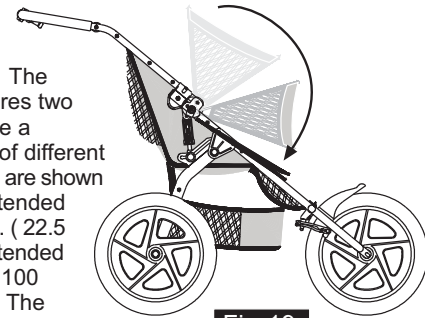
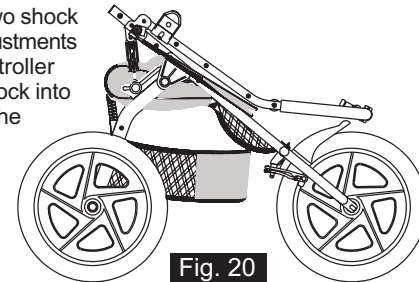
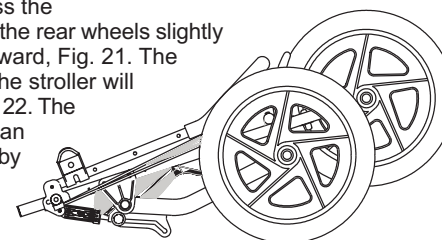

Fig. 19
Fig. 20
Fig. 22
**12 FOLDING:** Collapse the sun canopy, rotating it forward towards the front wheel, as shown in Fig. 19. Remove the contents of the Low Boy cargo pouch. Unbuckle the AFOD strap (Fig. 4). Release the clasps shown in Fig. 1, rotating them up and fold the handle forward as shown in Fig. 20. With both hands, depress the shock release knobs, lift the rear wheels slightly and slide the shocks forward, Fig. 21. The wheels will fold up and the stroller will collapse as shown in Fig. 22. The stroller can be folded to an even more compact size by removing the front and rear wheels. The front wheel is removed by opening the brake quick release (Fig. 8), opening the wheel